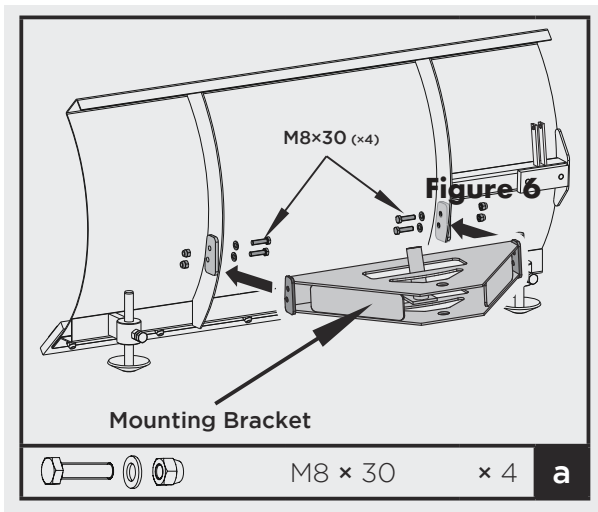

Figure 7
1. Mount the mounting bracket to the blade using M8x30 hex bolts, washers and nuts (figure 7).